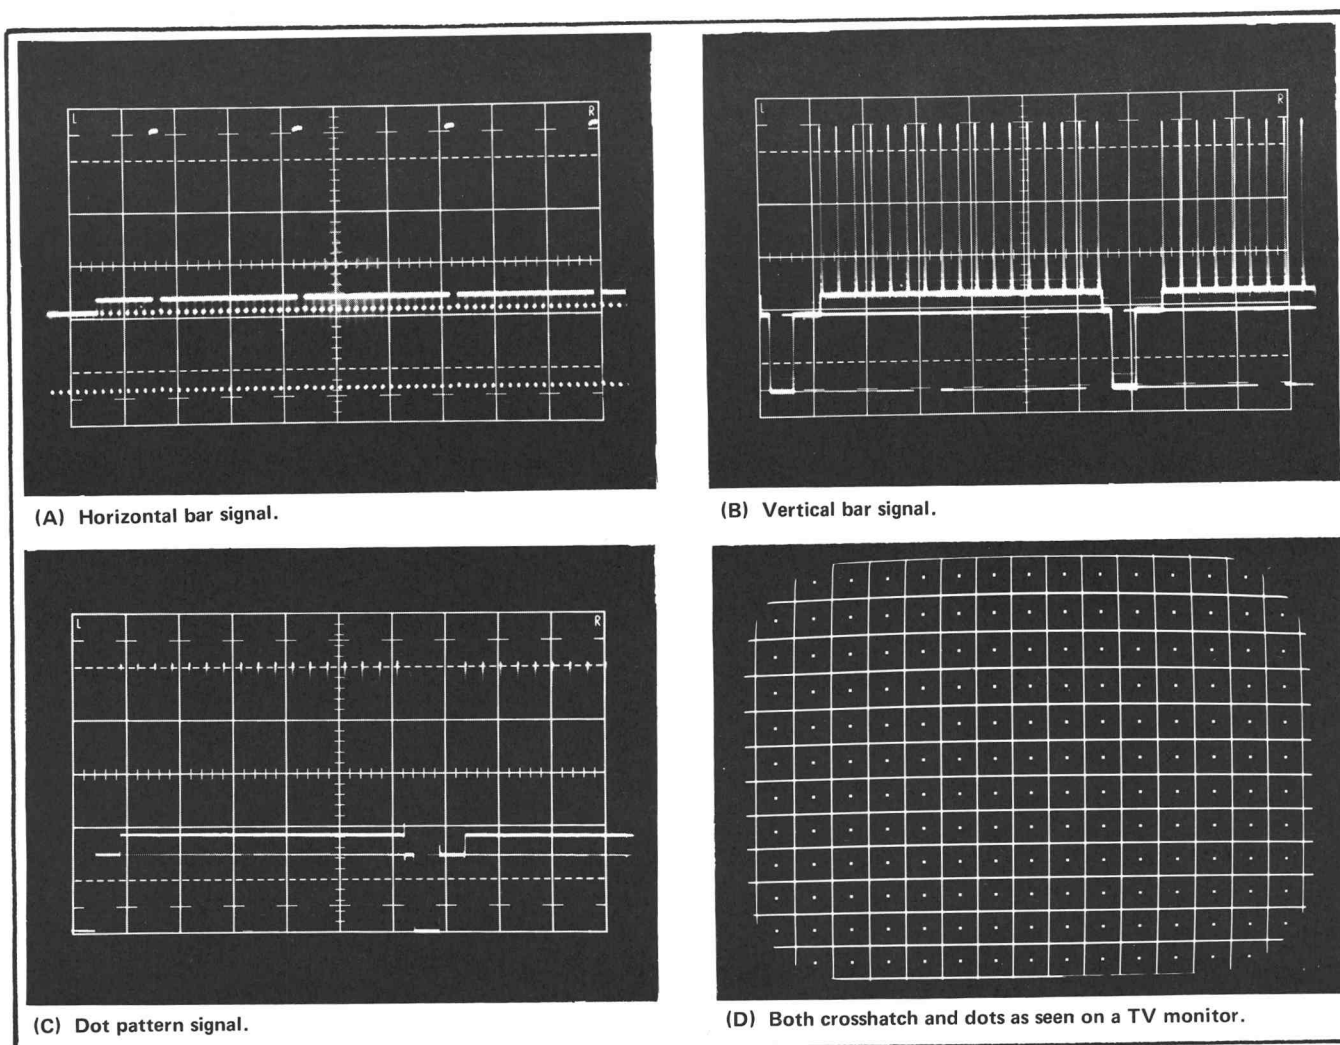

Fig. 2-12. Convergence pattern outputs.
8. Change the cable from the COMP VIDEO connector to the CONVERGENCE PATTERN connector on the Type R140. Change the Type R140 CONVERGENCE CROSSHATCH switch to HORIZ. Set the Type 545B Time/Cm switch to 2 mSec and the 5X Magnifier ON. Note the single line out of every 17 with a white luminance level. See Fig. 2-12(A). Its position can be changed with the VERT POSITION control on the Type R140. These pulses correspond to the horizontal bars as seen on the monitor. See Fig. 2-12(D).
lines. The display should consist of a composite sync and blanking signal with 16 or 17 positive-going pulses along the line. See Fig. 2-12 (B). These pulses correspond to the vertical bars displayed on the monitor. See Fig. 2-12 (D).
10. Change the Type R140 CONVERGENCE DISPLAY selector from CROSSHATCH to DOT. The display should be similar to that seen in the previous step, but should have dim positive-going pulses. See Fig. 2-12 (C). These correspond to the dots as seen on a monitor. (Fig. 2-12 (D).)